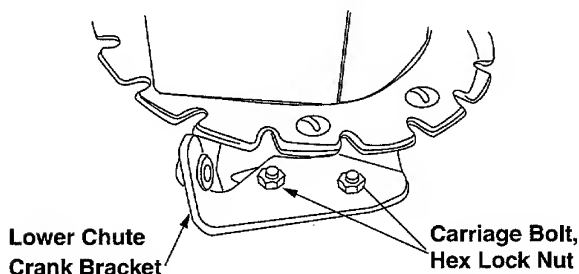

Figure 8
- You may have to loosen the carriage bolts and hex lock nuts which secure the lower chute crank bracket to the extension on the left side of the chute assembly. See Figure 8.